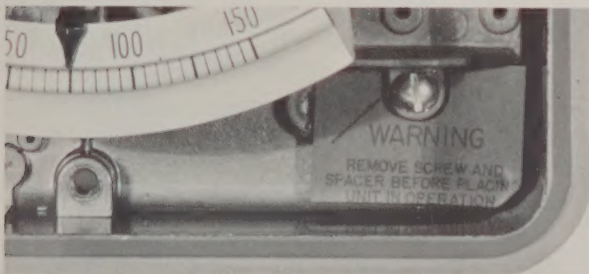

FIGURE 5 - Removing Screw and Spacer
1. With cover removed, remove screw and spacer as noted on red warning tag (Figure 5) in lower right hand corner of case.